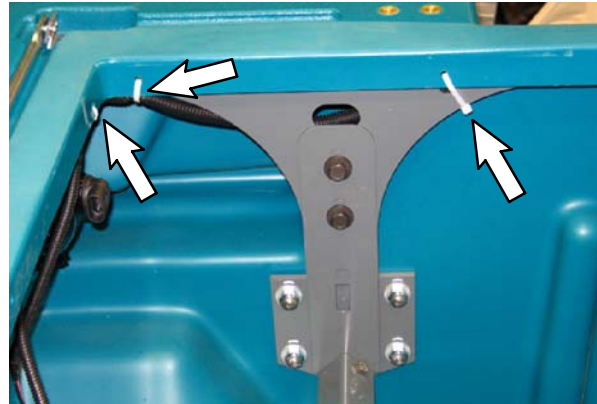

FIG. 13
24. Use cable ties to secure the wire harness inside the hopper. Refer to Fig. 13.